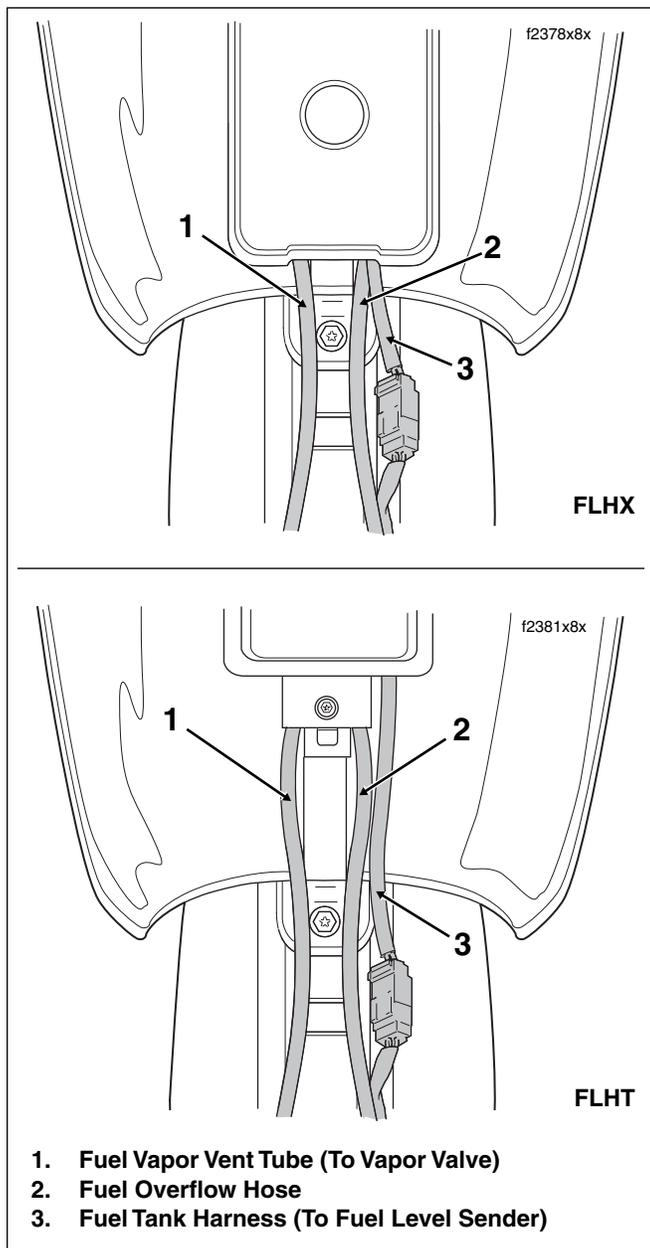

Figure 4-18. Console Cable/Hose Routing (FLHX, FLHT)
7. Remove filler cap. Exercising caution to avoid pinching harness, overflow hose and vent tube, position console on canopy as shown in Figure 4-18. Reinstall filler cap.
- Remove filler cap. Exercising caution to avoid pinching harness, overflow hose and vent tube, position console on canopy as shown in Figure 4-18. Reinstall filler cap.